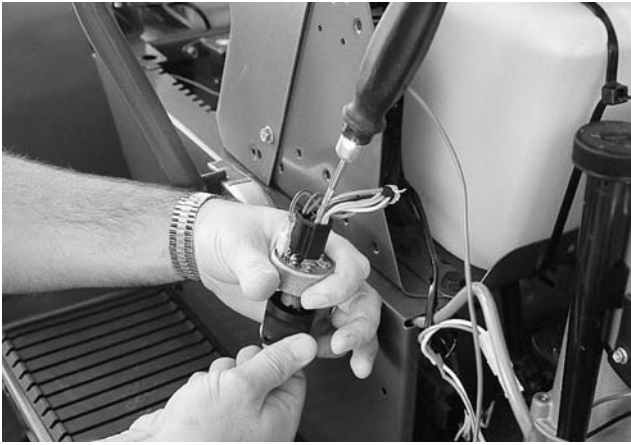

Figure 3-32.
16. Move the tester from the black lead to the orange lead. Turn the ignition key to the start position. If voltage is present, the ignition switch is good. If no voltage is present, replace the ignition switch. See Figure 3-32.